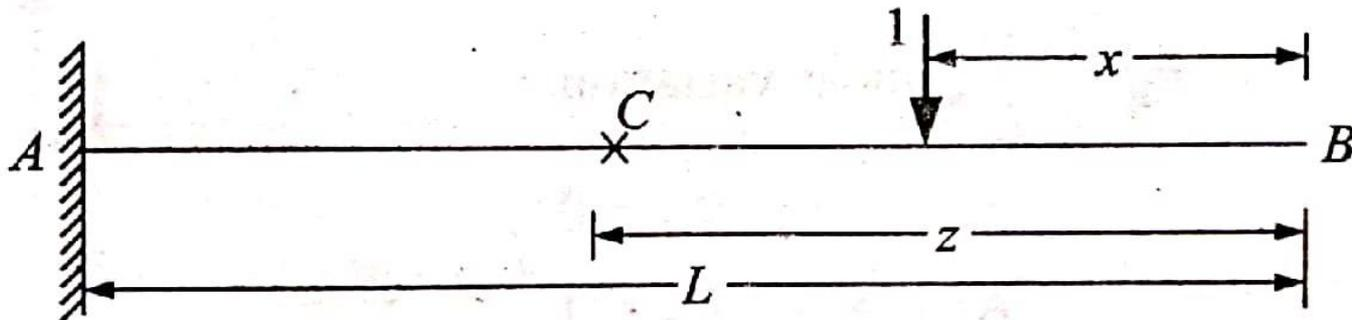

Figure 9: Cantilever with unit load
- Consider a cantilever beam of span L as shown in Figure 9.